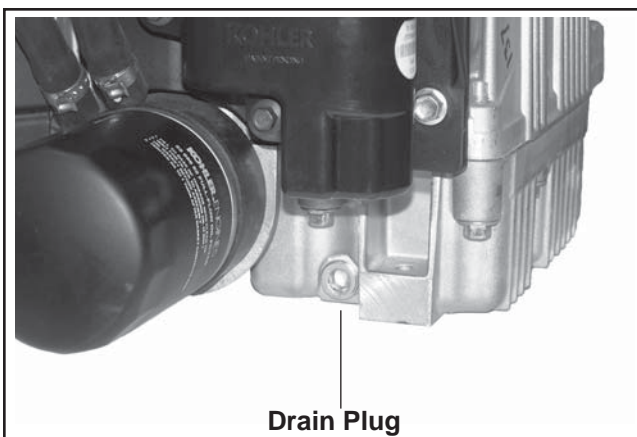

Figure 10-93. Install Oil Drain Plug(s).
4. Install the oil drain plug(s). See Figure 10-93. Torque plug(s) to 13.6 N·m (10 ft. lb.).